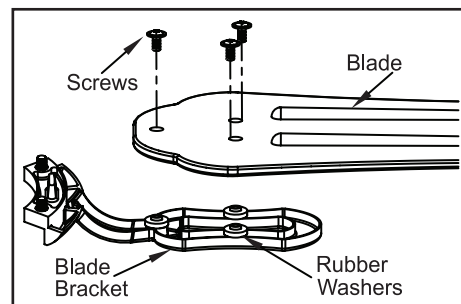

Figure 13
1. Attach blade to blade bracket using the screws provided as shown in Figure 13. Start a screw into the bracket. Repeat for the two remaining screws.